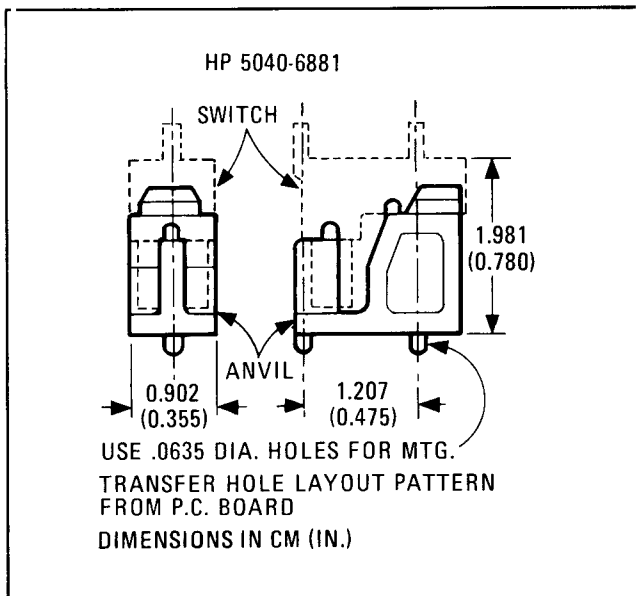

Figure 8-4. Pushbutton Switch Support Anvil
- For reliable operation, any method of assembly must assure that the switch is mounted tightly against the pc board. To facilitate the heat staking operation, specially molded support anvils (HP 5040-6881) can be ordered. Refer to Figure 8-4.